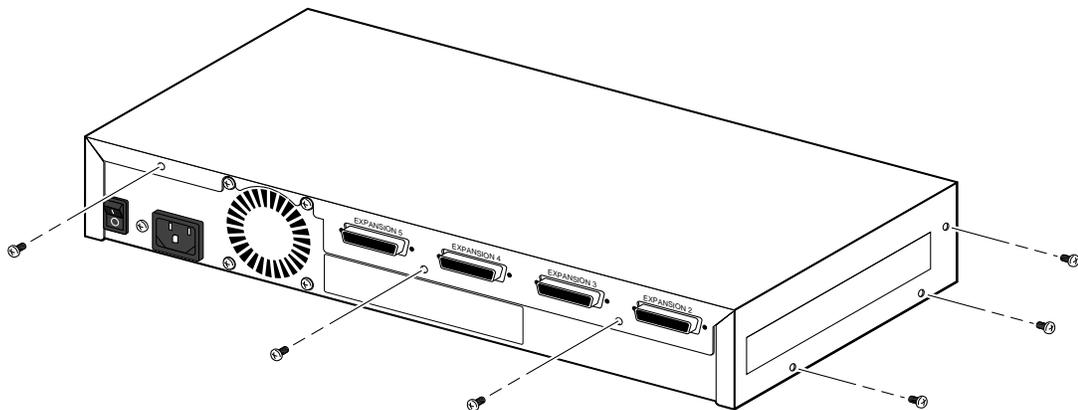

Figure 1. Removing concentrator cover screws
a. Using a Phillips screwdriver, remove all the screws from the sides of the concentrator and from the edges of the cover at the back (see Figure 1).